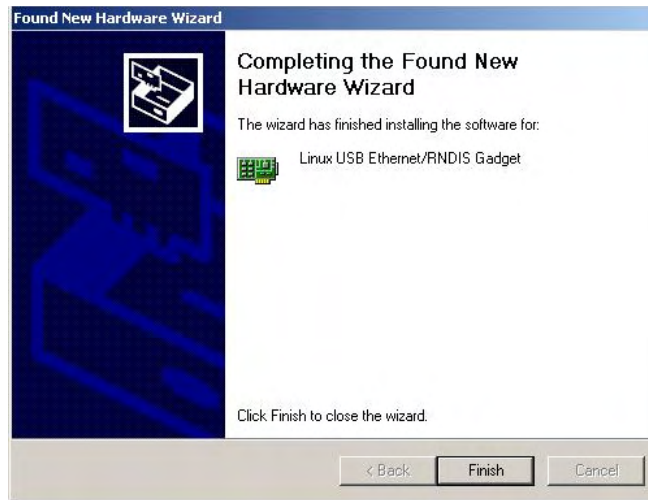

FIG. 34 Completing the Found New Hardware Wizard
9. Once the system finds the driver, it displays its choice (FIG. 34). Click **Finish** to complete the driver installation.